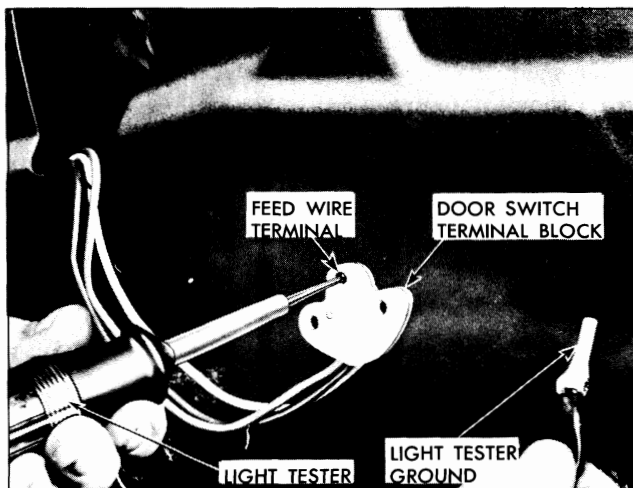

Fig. 9-5 Checking Feed Circuit
1. Connect one light tester lead to feed terminal of switch block and ground other tester lead to body metal (Fig. 9-5).